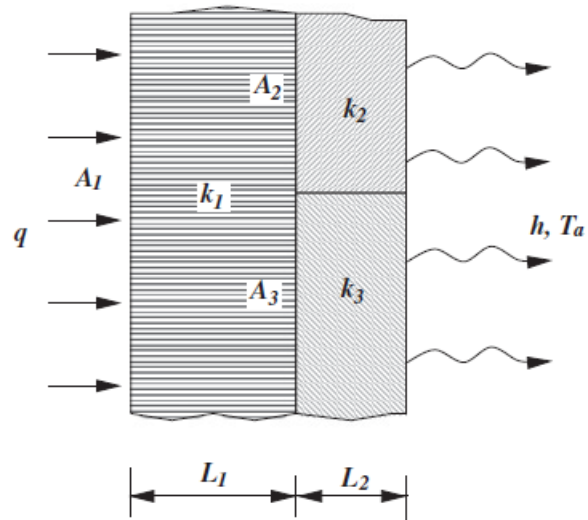

Figure P7.3
3. Use the system analysis procedure described in this chapter and constructs the discrete system for heat conduction through the composite wall shown in **Figure P7.3**. Also, from the following data, calculate the temperature distribution in the composite wall.